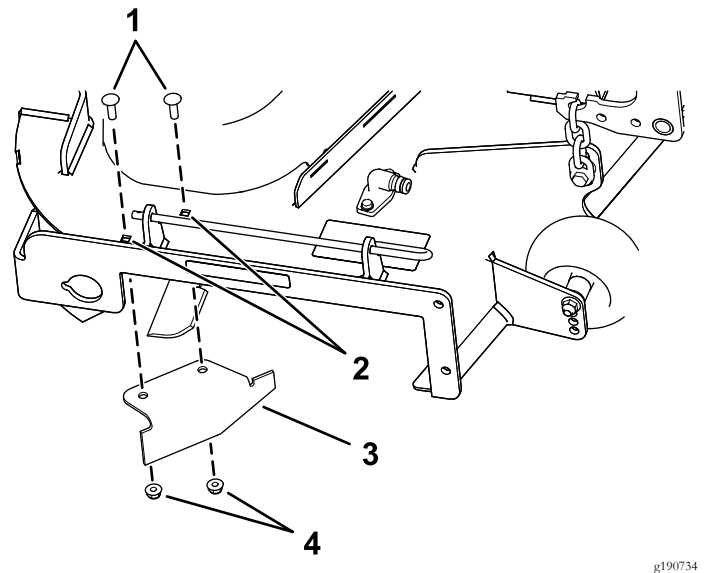

Figure 33
9. Locate the cutoff baffle in the loose parts bag and remove the fasteners at the rear holes of the discharge plate (Figure 33).